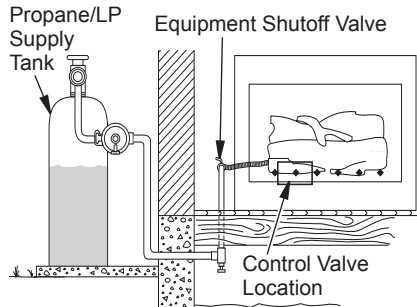

Figure 16 - Checking Gas Joints (Propane/LP Gas Only)
(see Figure 16 or 17). Apply noncorrosive leak detection fluid to all joints. Bubbles forming show a leak.
4. Check all joints from equipment shutoff valve to gas control (see Figures 16 and 17). Apply noncorrosive leak detection fluid to all joints. Bubbles forming show a leak.